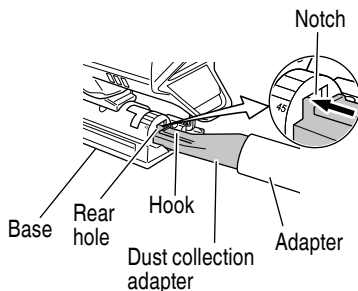

Fig. 32
- (5) Insert dust collection adapter into the rear hole of the base until the hook catches in the notch. (Fig. 32)
- (6) Press the hook to remove the dust collection adapter.